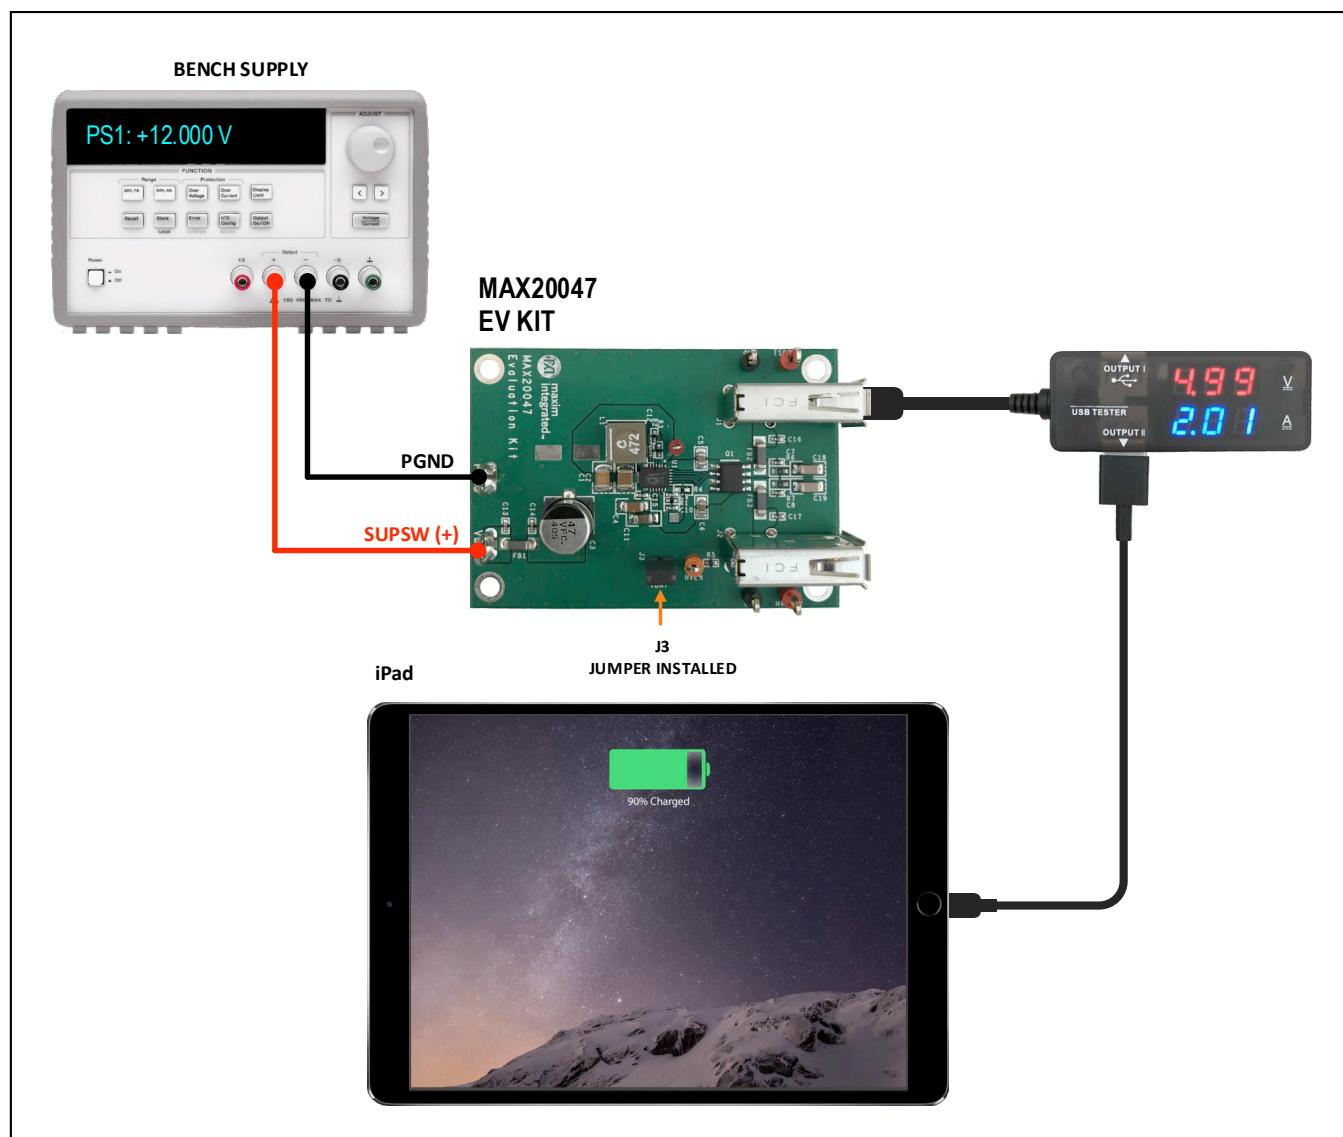

Figure 4. Test Setup for Verifying DCP Charger Detection with an iPad
Figure 4 shows the test setup to evaluate the IC's VBUS port voltages.
- 1) Connect the equipment (see Figure 4), set PS1 to 12.000V, and enable the power-supply output.